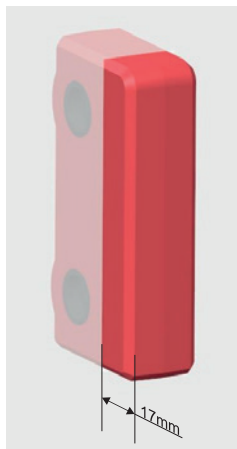

Fig. 13
- The CSMS and the actuator must not be flush mounted in metallic materials. 17 mm should be maintained (see fig.13).